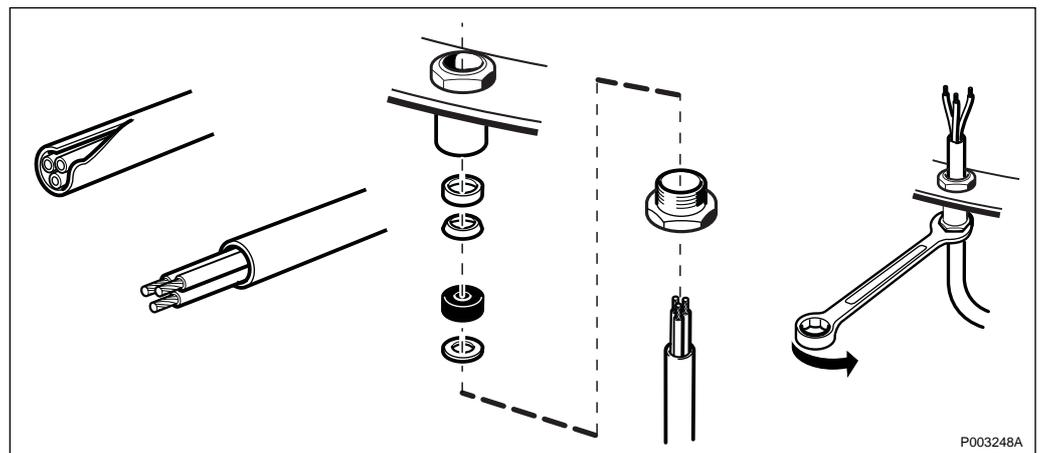

Figure 285 Mounting the cable inlet
4. Mount the cable inlet, *see Figure 285 on page 235*.